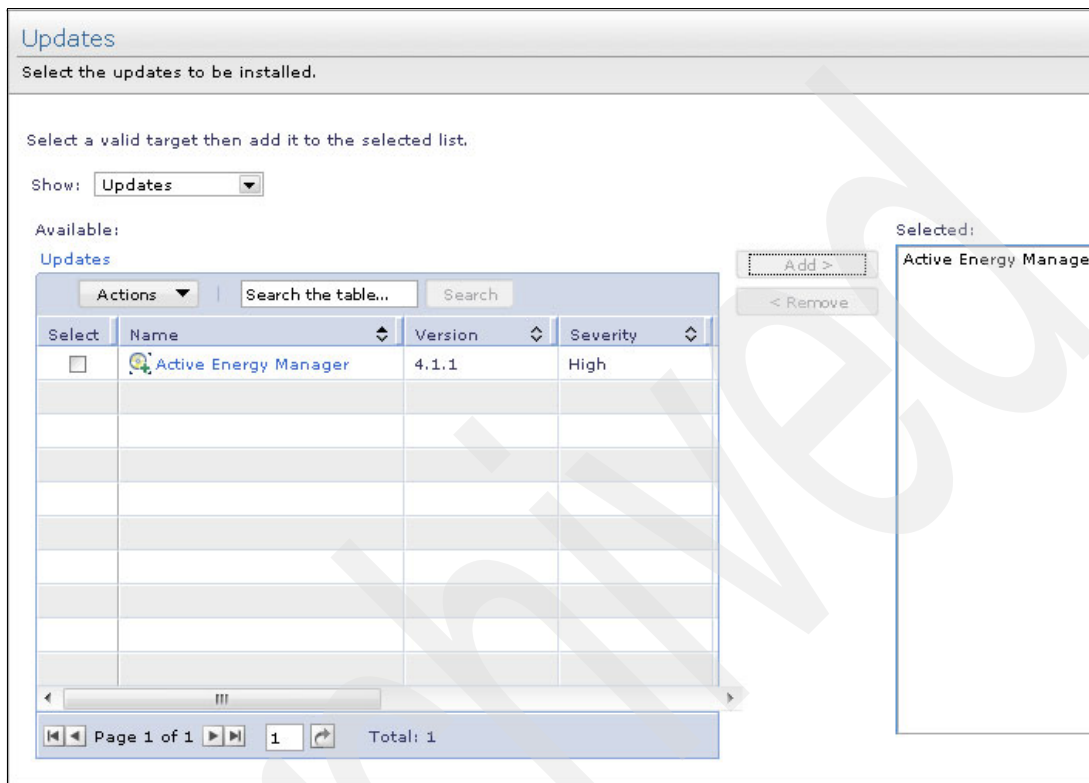

Figure 3-19 Available updates to apply
13. In the Updates window, shown in Figure 3-19, the wizard shows which updates are available to install. Select **Active Energy Manager Version 4.1.1** and click **Add**.